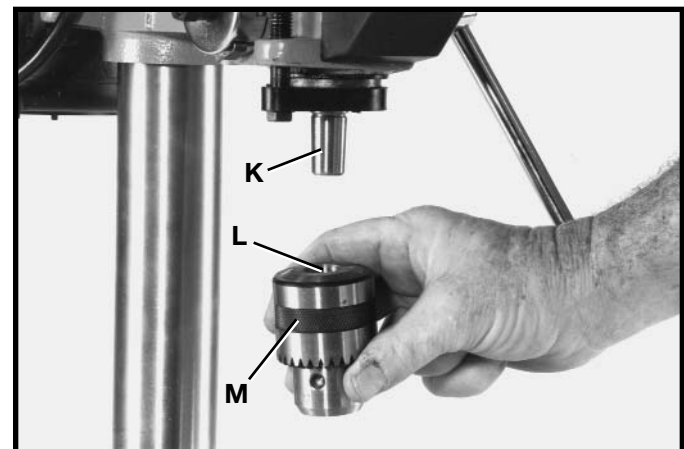

Fig. 9
6. **IMPORTANT:** The spindle taper (K) Fig. 9, and the tapered hole (L) in the chuck (M) are coated with a clear rust protectant and will require a solvent to remove the coating. These surfaces must be clean to ensure that the chuck will adhere to the spindle and will not come loose during operation. **NOTE:** Household oven cleaner can effectively remove the rust protectant coating from the spindle and chuck; however, carefully follow the manufacturer's safety rules concerning its use. Then push the chuck (M) up on the spindle (K) as far as it will go.